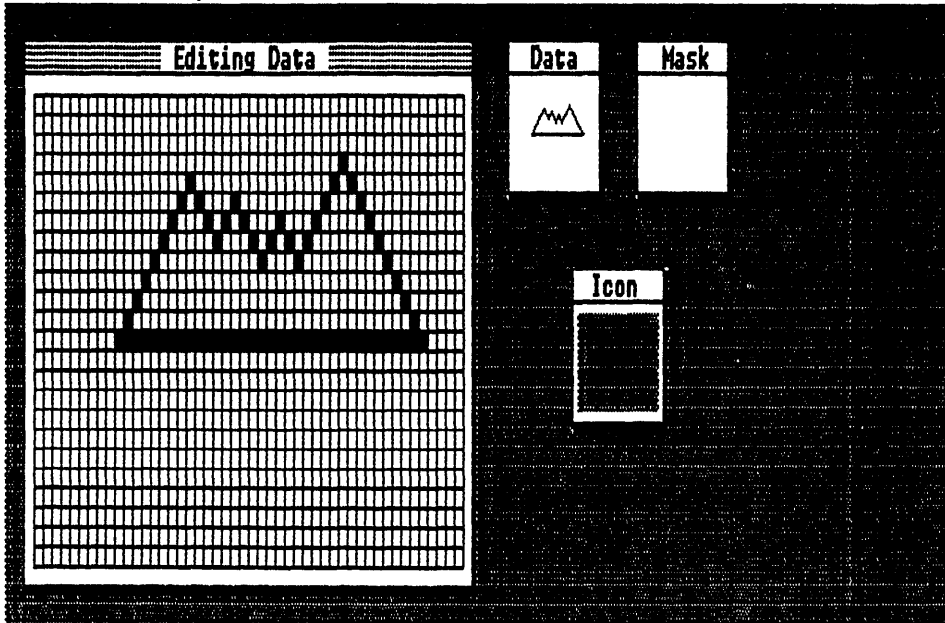

Fig. 7-1. ICONEEDIT is used for designing GEM icons.
2. Design the application's icons with the GEM ICONEDIT (Fig. 7-1).